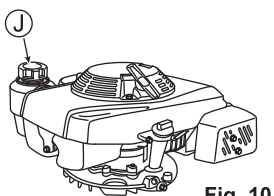

Fig. 10
1. Open the fuel tank cap (J) and refuel gasoline. Immediately wipe off with a rag if gasoline is spilled. (See Fig. 10)
2. Firmly close the fuel tank cap (J) after refueling.